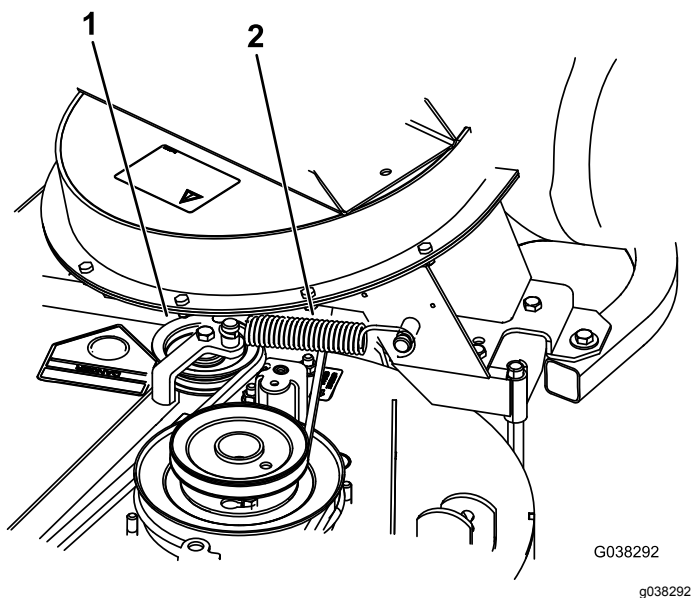

Figure 57
8. Install the spring as shown in Figure 57.
9. Install the belt onto the spring-loaded idler pulley (Figure 57).